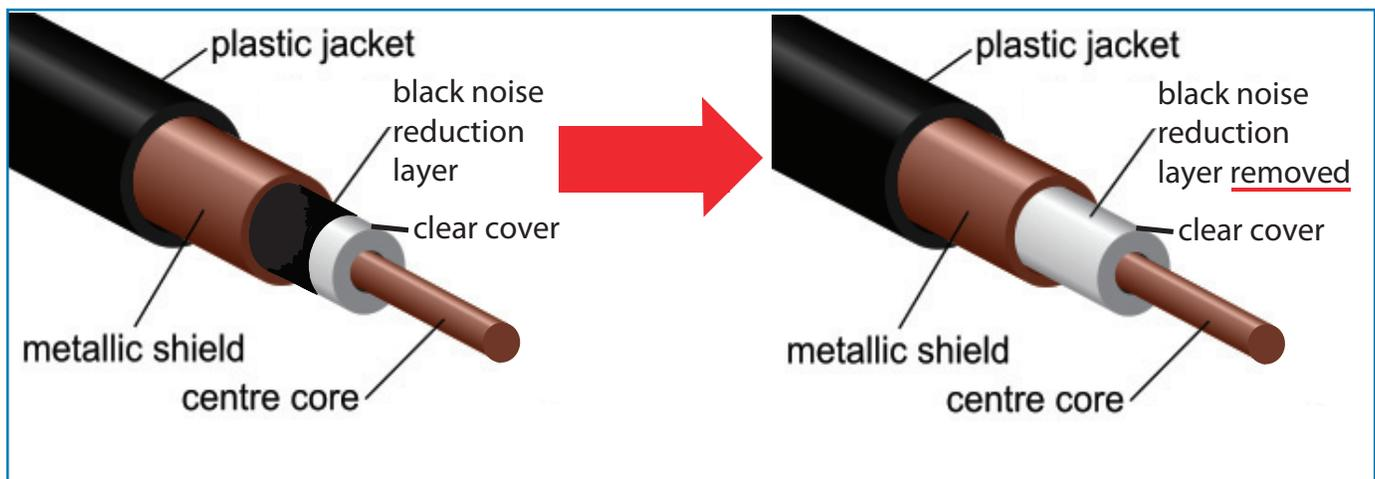

FIG 3-3
3.2 Coaxial Cable Preparation: Cut coaxial cable plastic jacket off. This will reveal the braided shield wire. Twist the braid together to reveal black noise reducing layer. Remove the black noise reducing layer even to the braid (See Fig 3-3). Cut some of clear layer away to expose copper center core.